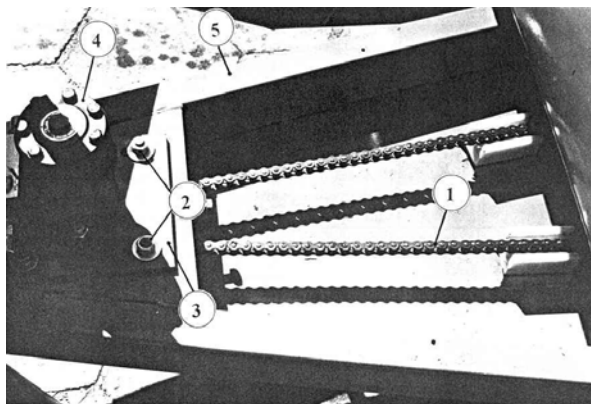

Fig. 30. Adjusting the tightening of the drive chain.
After wrapping the first 10 ÷ 12 bales the tension of the main 5/8" drive chain should be adjusted (see Fig. 30). To do this, slightly unscrew 4 M12 nuts (item 2), which fasten the plate (item 3) with the hydraulic motor (item 4) to the bottom frame (item 5) and move forward (in the direction of the tractor) the plate (with the motor) on the bean openings until the tension is correct (the deflection approx. 20 mm). The drive chain (item 1) is visible after removing trapeze plate behind on the bottom frame behind the motor. After wrapping each 100 bales the tension of the drive chain should be checked.